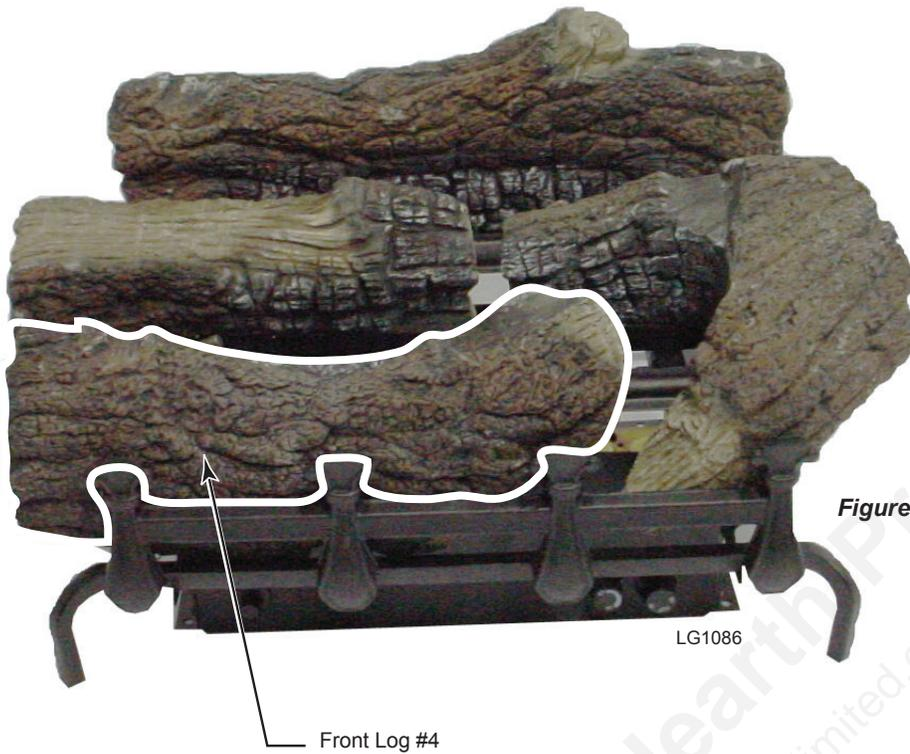

Figure 19
4. Place Front Log (#4) in between burner and grate so that notched areas fit between grate supports. *Figure 19*
5. Rest Left Top Log (#5) on front and rear log cutouts. *Figure 19*